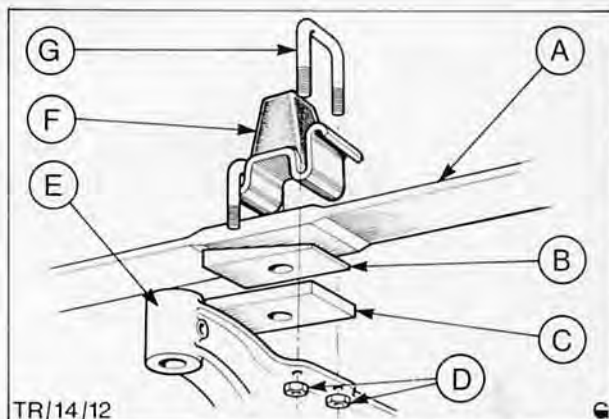

Fig. 41. Front spring and 'U' bolt assembly
3. Install new bolts ensuring bump rubber and packing wedge between spring and axle are correctly positioned, Fig. 41.
2. Remove nut and withdraw bolt from lower mounting on front axle beam, Fig. 41.